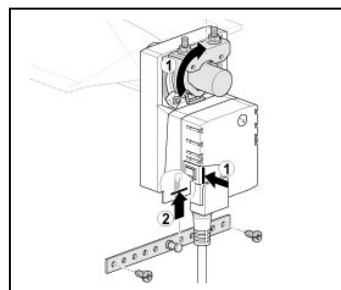

Fig 2
9. Press the manual release button and rotate the shaft clamp until centered; and slide the anti-rotation strap under the actuator (bend strap to fit contour of round damper). **See Fig. 2**
6. Slide the anti-rotation strap under the actuator (bend strap to fit contour of round damper). Place the strap halfway into the cutout, and secure with two self-tapping sheet metal screws. **See Fig. 2**